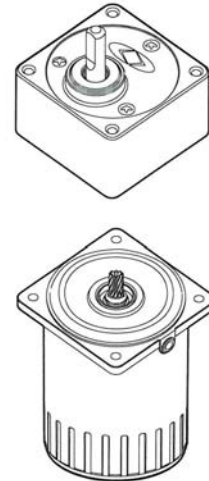

Figure 15.
4. Please refer to figure 15. Proper alignment is necessary when assembling gearhead with motor.